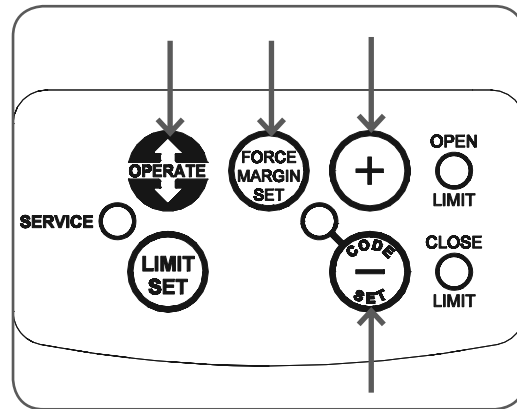

fig 28
- Press the OPERATE button to open the door (Fig. 28).
- Press the OPERATE button to close the door (Fig. 28).
- Press and hold the FORCE MARGIN SET button (Fig 28).